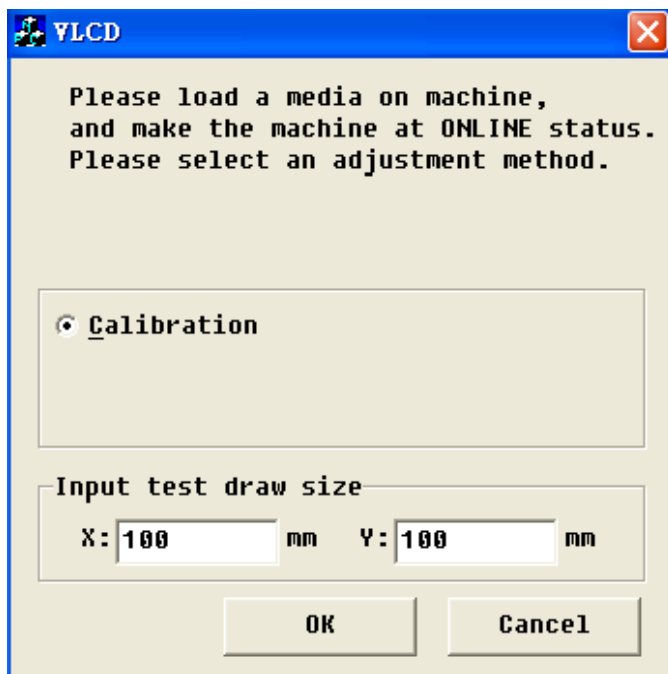

Figure 3-5
Step 1 After clicking on **Scaling** button, a dialog will pop up. Enter the width and length of the rectangle that you would like to cut (Figure 3-5).